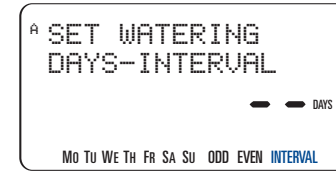

Figure 8: Selecting "Interval Watering"
- Press **NEXT** until "interval" flashes on the display. [See Figure 8]